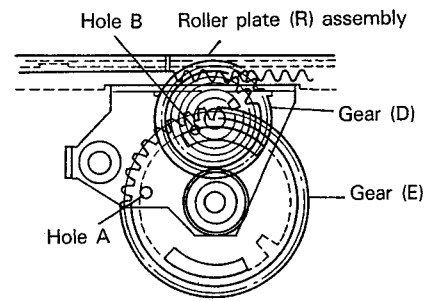

Fig. 2
- Meshing the Roller plate (R) assembly, Gear (E), Pinion (E), and Intermediate rack
1. Line up the hole in the Gear (D) with Hole B and the hole in the Gear (E) with Hole A and install them on the Roller plate (R) assembly as shown in Fig. 2.